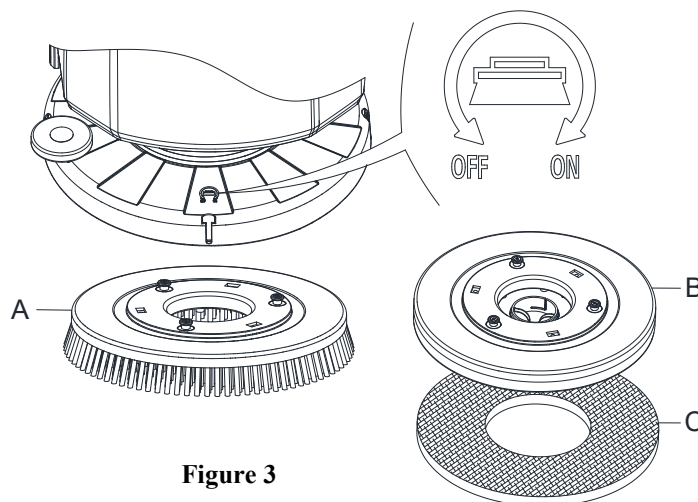

Figure 3
Install either the brush (A, Figure 3) or pad-holder (B and C, Figure3) according to the type of floor to be cleaned.
3. Place the brushes (A, Figure 3) or the pad-holder (B, Figure 3) under the deck (12, Figure 1).
7. If Step No.6 above proves to be difficult, use the manual method by turning the brush/pad-holder in the direction opposite to the normal turning direction (ON) to install the brush/pad-holder. (as shown in Figure 3)